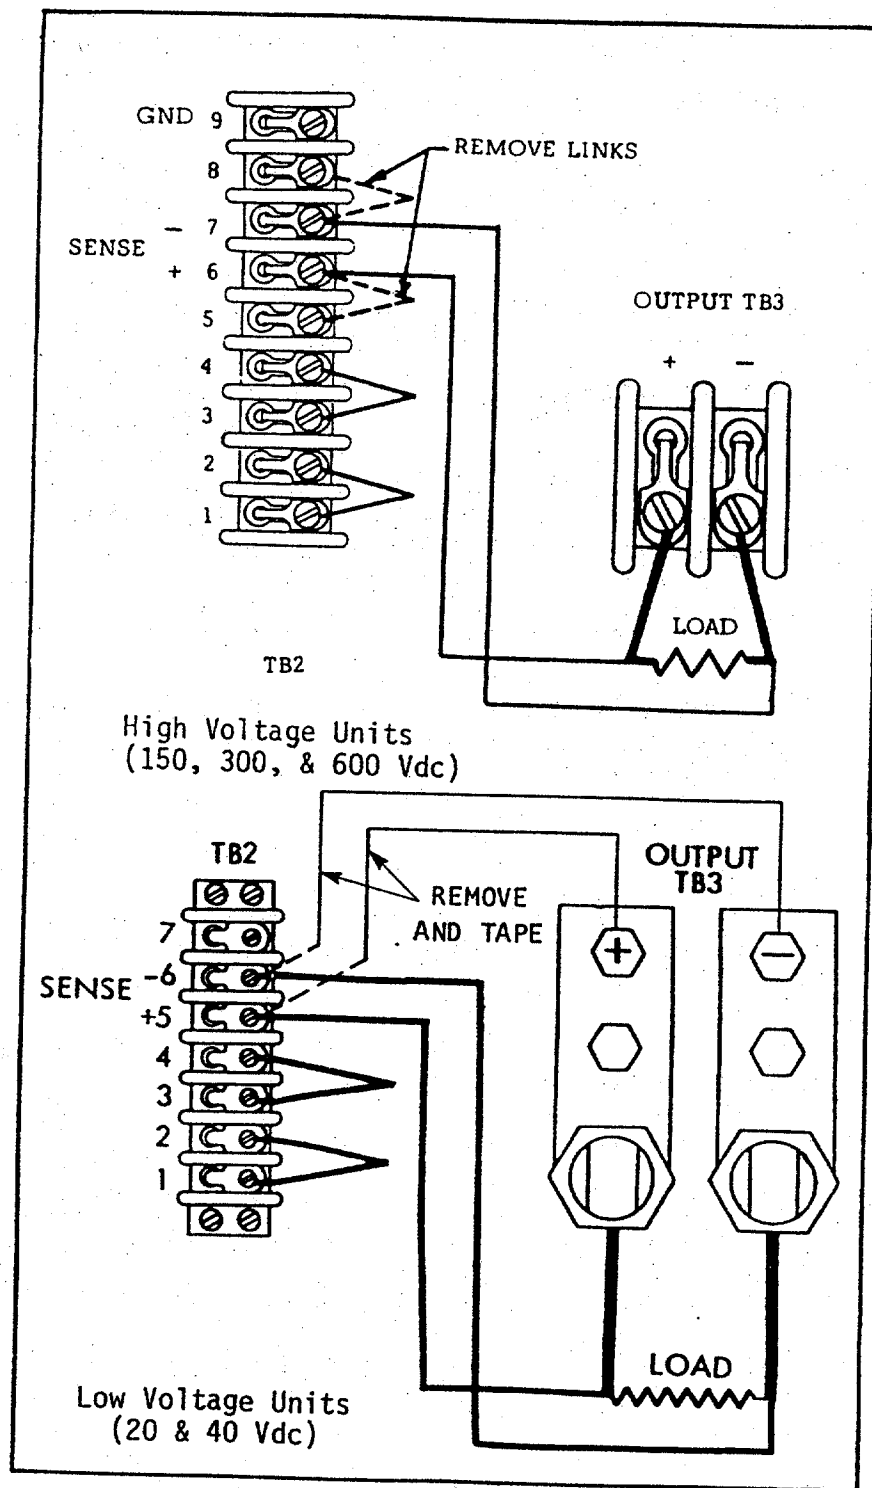

Figure 3-3 Remote Sensing Configuration
- b. Remove local sensing leads or links at the plus and minus SENSE of board (TB2). See Figure 3-3.
When the unit is returned to operation, the loose ends of the local sensing leads will be HOT. To prevent the possibility of injury to personnel, tape lead ends individually and fold back from both the output terminal board (TB3) and the control terminal board (TB2). (See Figure 3-3).
- c. Tightly secure remote sensing leads to plus and minus SENSE terminals. Note which lead is connected to the plus terminal (remote sensing configuration is shown in Fig. 3-3).